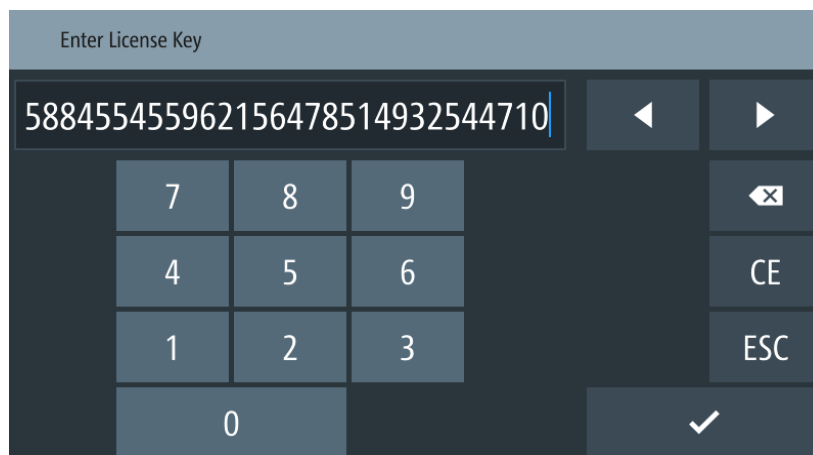

Figure 7-58: License key on-screen keyboard
4. To remove the option, select "Remove" from the license dialog. The R&S NGP800 displays the license key on-screen keyboard. See Figure 7-58.